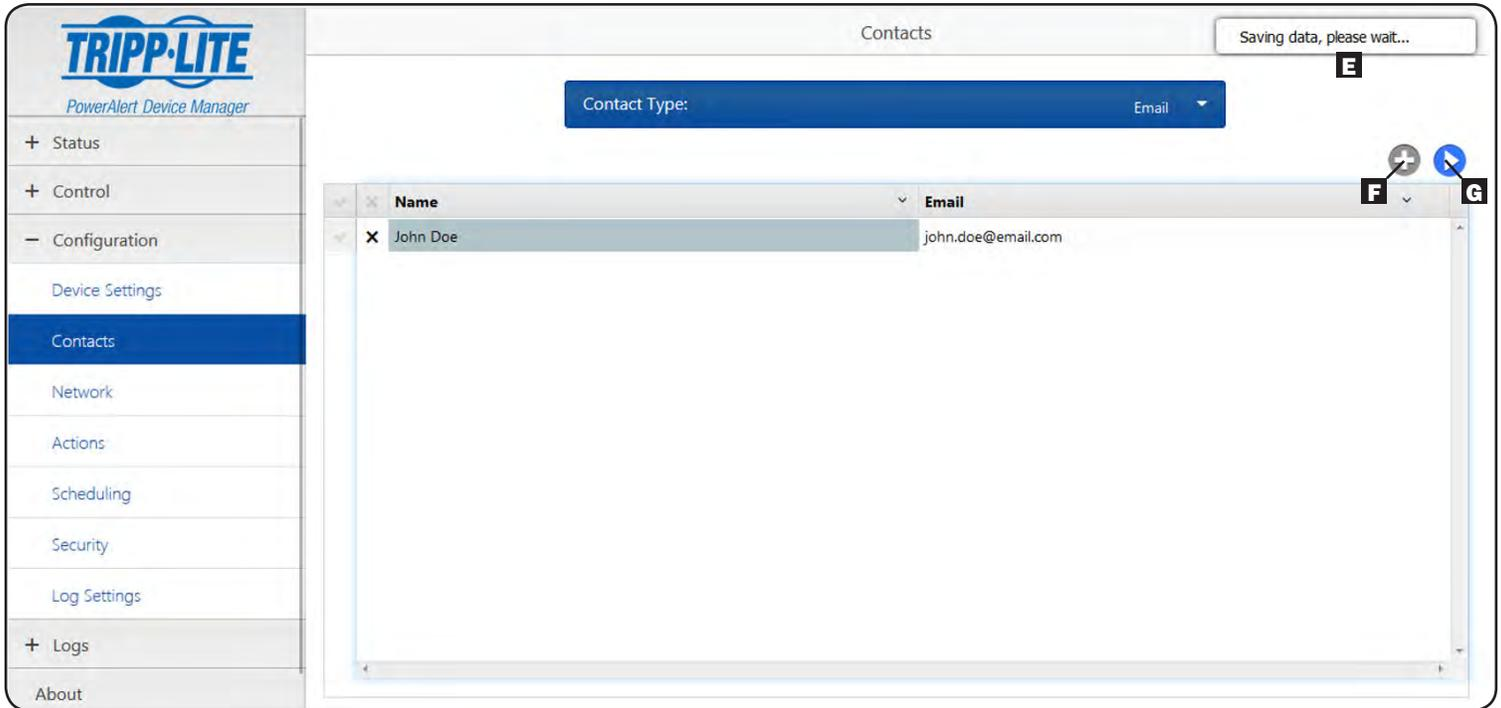

Figure 3-2b: Power Alert Device Manager Navigation
4. After logging in, the Overview page on the Status Menu will display. (Figure 3-2a). Additional navigation elements are shown in Figure 3-2b.